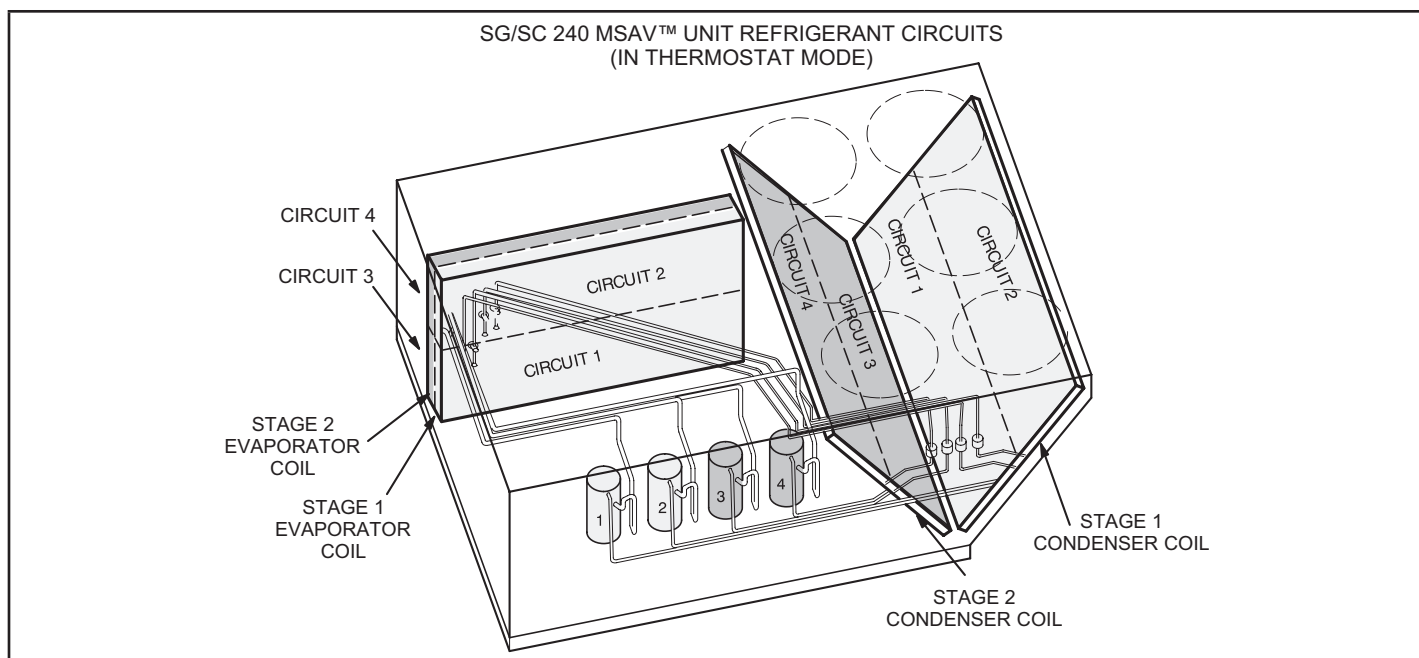

FIGURE 34
- 5 - SG/SC 240 units contain four refrigerant circuits or systems. Evaporator and condenser coil refrigerant circuits 1 and 2 make up stage 1 cooling in thermostat mode. Evaporator and condenser refrigerant circuits 3 and 4 make up stage 2 cooling in thermostat mode. See FIGURE 34.